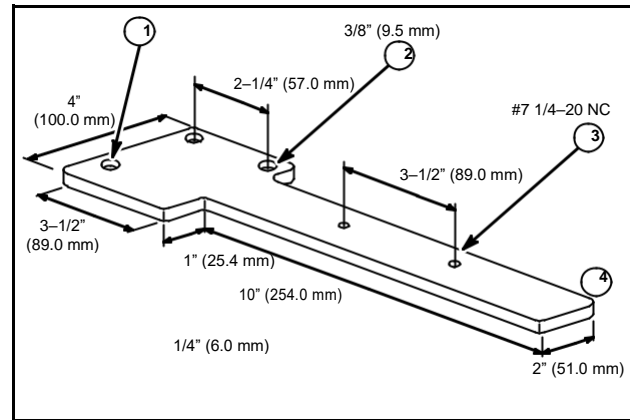

Fig. 5
A starter motor test fixture may be made of steel 1/4" (6.0 mm) thick as shown in Fig. 5. Extra hole for mounting starter brackets (1), two 3/8" (9.5 mm) holes for starter mounting bracket (2), two #7 tap holes for 1/4-20 NC screws for mounting B&S #19200 Tachometer (3), Fig. 5.